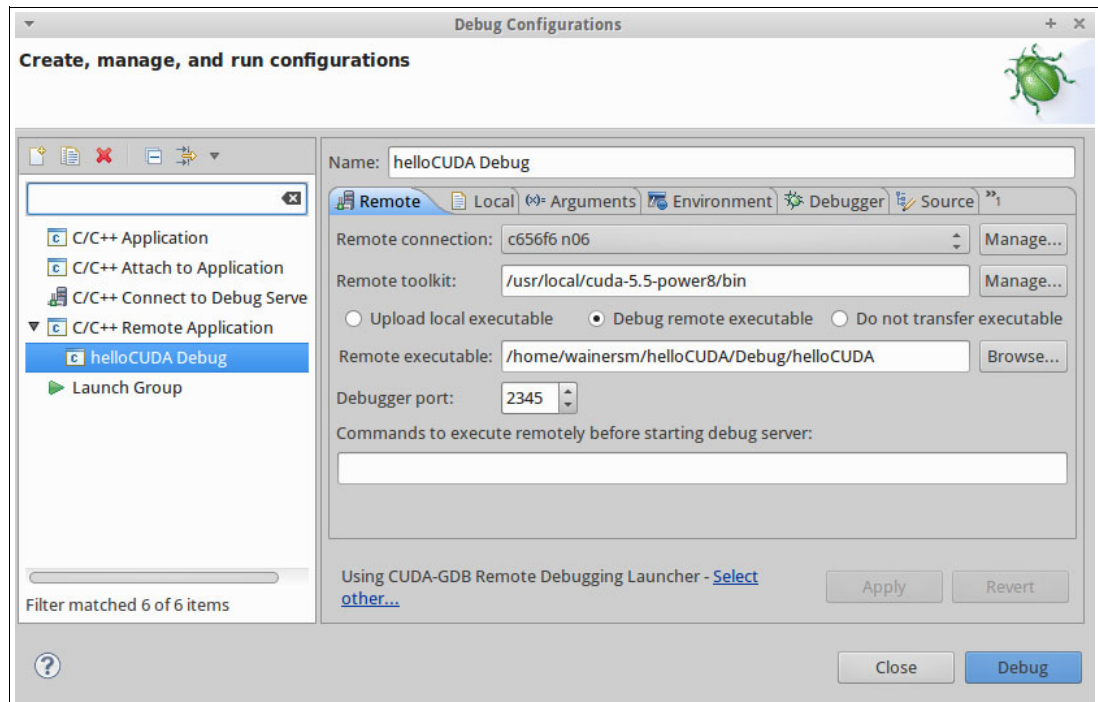

Figure 17 Remote tab at the debug configuration window
2. Double-click **C/C++ Remote Application**. This window is shown in Figure 17 on page 52. The **Remote** tab can be used to specify connection details.